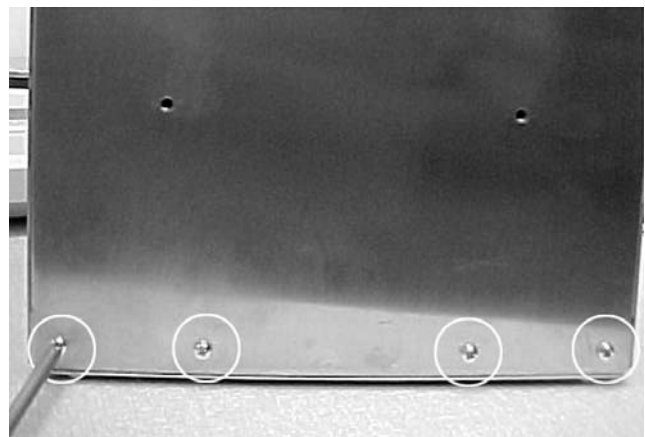

Figure 5-10 Removing Blower Plug and Screws
4. See Figure 5-10. Disconnect the blower plug and remove the screw next to the plug.
5. See Figure 5-10. Remove the 8 screws at the base of the lamphead (4 front and four rear).